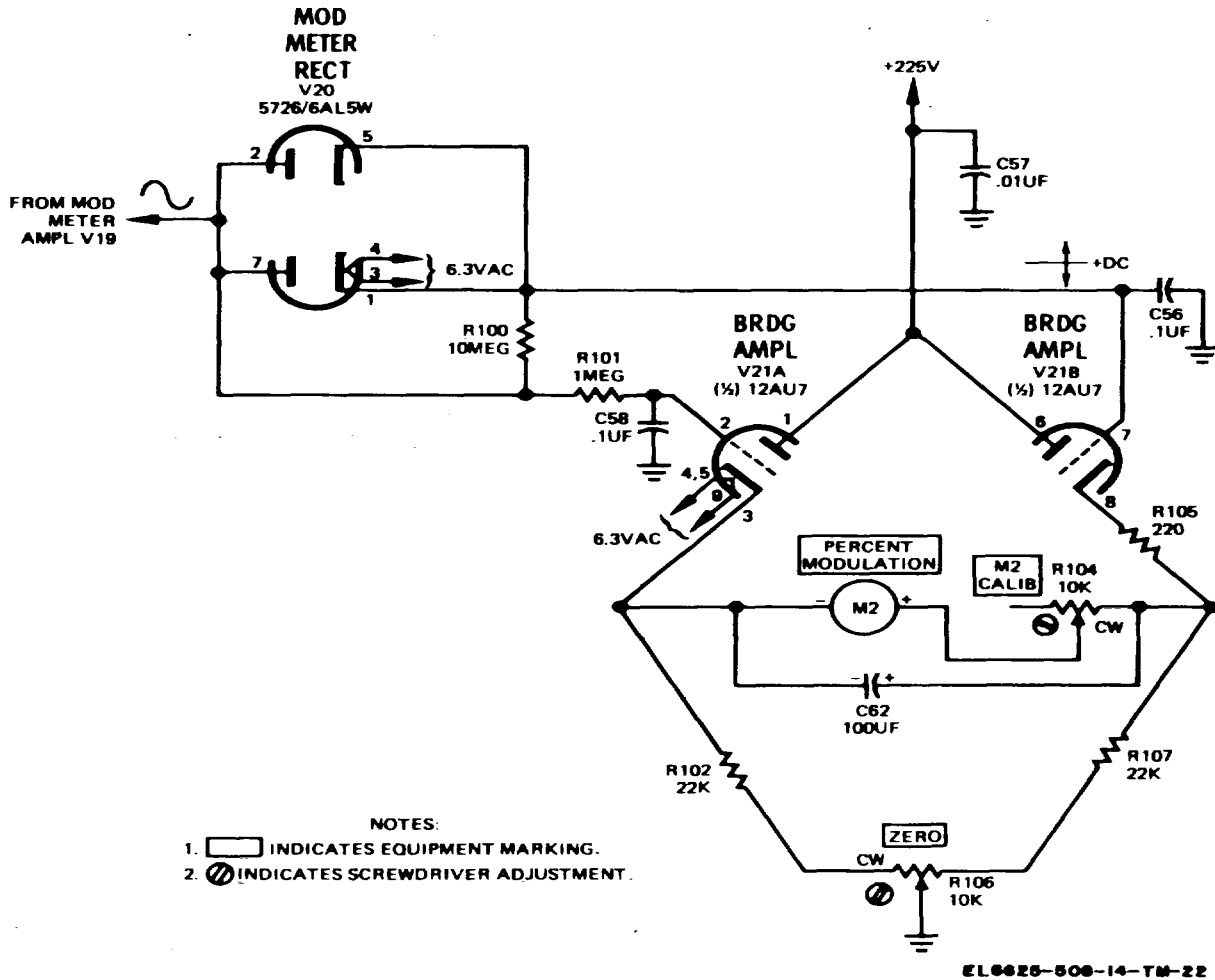

Figure 5-13. Percent modulation meter, rectifier, and bridge circuit, schematic diagram
c. The signal, amplified by V18, is coupled to V19 through C51 and R95. It is then rectified by V20, shown in Figure 5-13.
a. Modulation meter rectifier (fig. 5-13), V20, is coupled to a balanced bridge detector circuit. This circuit consists of both sections, A and B, of V21, meter M2, and related circuitry.